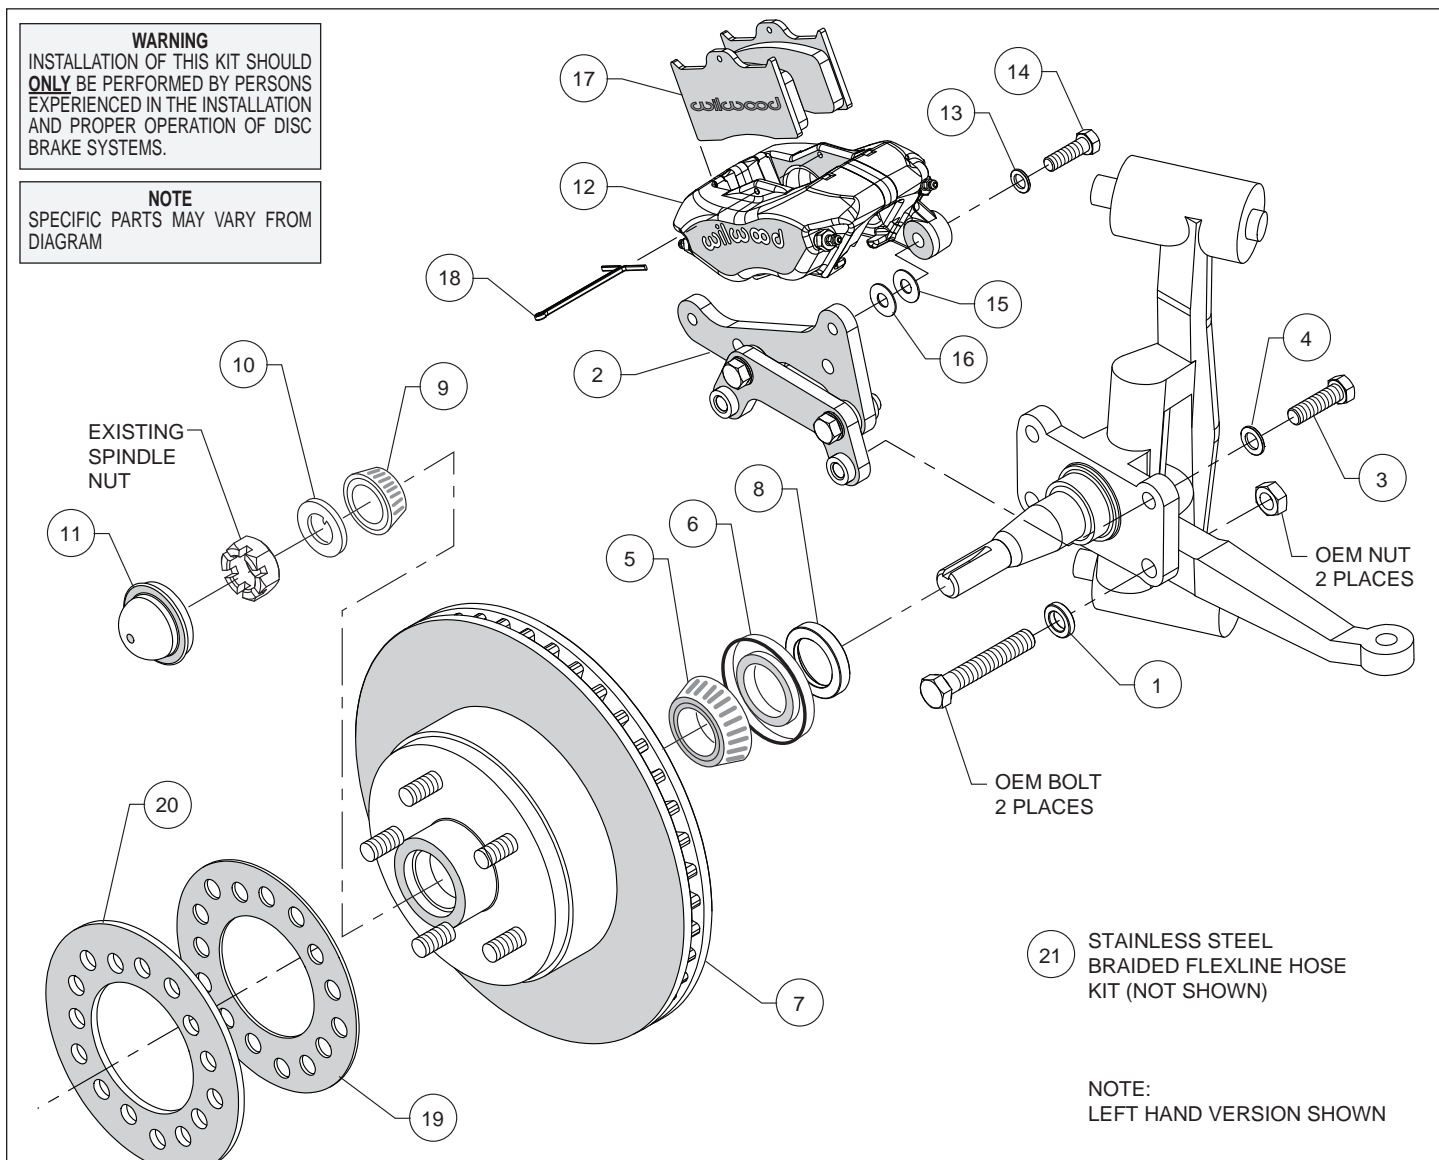
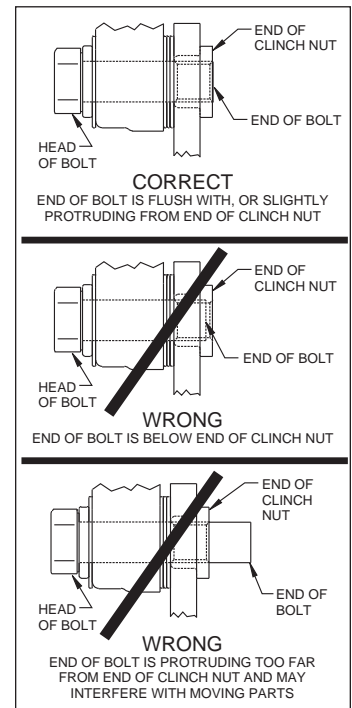

Figure 1. Typical Installation Configuration
Figure 3. Clinch Nut Engagement Diagram
Assembly Instructions (numbers in parenthesis refer to the parts list, on the preceding page and Figure 1): **CAUTION:** All mounting bolts must fully engage clinch nuts. Be sure to check that all bolts are either flush or protruding through flanged side of clinch nut after shimming, Figure 3.
- One at a time, remove the two lower OEM bolts that secure the steering arm from the back side of the spindle. Place spacer (1) on each bolt on the outboard side of spindle face and reinstall using OEM nut as shown in Figure 1 and Photo 1. Torque nut to manufacturer's specifications.
- Orient the caliper mount bracket (2) as shown in Figure 1 and Photo 2, and install using bolts (3) and washers (4). Ensure that the flanged heads of the clinch nuts in the bracket are facing outboard, Photo 2. Temporarily tighten the mounting bolts. **NOTE:** The bracket must fit squarely against the mount bosses on the upright. Inspect for interference from casting irregularities, machining ridges, burrs, etc. Remove bolts one at a time, apply red *Loctite*® 271 to the threads and torque to 60 ft-lb.
- **NOTE:** Please reference the caution statement at the beginning of the assembly instructions. Mount the caliper (12) onto the caliper mounting bracket (2) using bolts (14) and washers (13), as shown in Figure 1. Initially place one .035" thick shim (15) and one .016" thick shim (16) on each bolt between the caliper and the bracket, Photo 6. Temporarily tighten the mounting bolts and view the rotor (7) through the top opening of the caliper. The rotor should be centered in the caliper, Photo 7. If not, adjust by adding or subtracting shims (15 and/or 16) between the bracket and the caliper. Always use the same amount of shims on each of the two mounting bolts. **NOTE:** The end of each bolt must be flush with or slightly protruding from the head of the clinch nut, as shown in Figure 3. If necessary place spare shims between washer (13) and caliper mounting ear to achieve the proper clinch nut engagement. Once the caliper alignment and clinch nut engagement are correct, remove the bolts one at a time, apply red *Loctite*® 271 to bolt threads, and torque to 35 ft-lb.